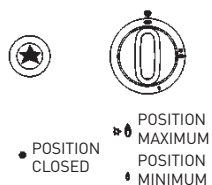

Fig. 1
To light a burner, press the corresponding knob and turn it counterclockwise until it reaches the maximum position (large flame symbol, fig. 1), then bring a lighted match close to the burner.
To light a burner, press the corresponding knob and turn it counterclockwise until it reaches the maximum position (large flame symbol, fig. 1); then press and release the electric ignition button.
If the burners are equipped with a flame safety device, turn the knob of the corresponding burner counterclockwise until it reaches the maximum position (large flame symbol, fig. 1) and stops. Then press the knob in question and repeat the instructions for electronic ignition described above. Once the burner is lit, push the knob in for about 10 seconds.
- Once a preparation is boiling, lower the temperature by setting the knob to the minimum position (small flame symbol, fig. 1).
- To light a burner equipped with a flame safety device, the corresponding knob must be set to the maximum position (large flame symbol, fig. 1).
- Light the burner and turn the corresponding knob to the minimum position (small flame, fig. 1).